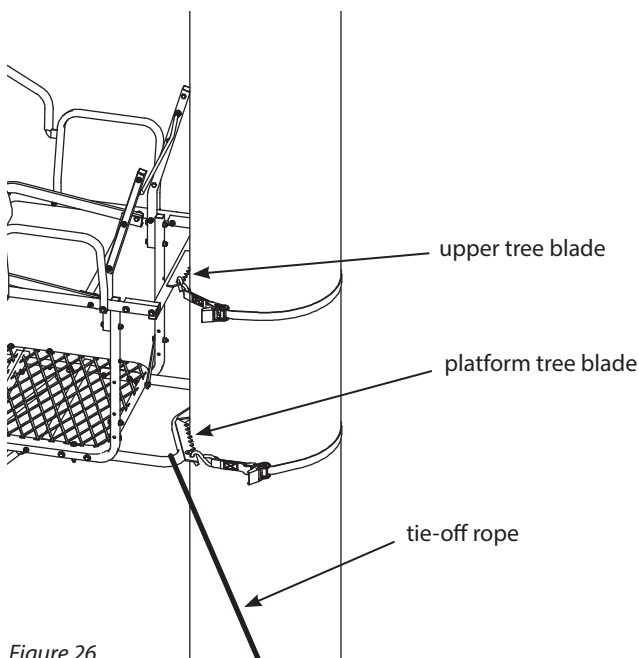

Figure 26
4. Standing on ladder step, lean toward tree with ratchet strap now in hand, hook "S" hook with long strap through hole provided on tree blade. Feed the long strap through the center (slot) of ratcheting mechanism and back around through tightening lever. **SEE FIGURES 26 and 27.**
SEE FIGURES 26, 27, AND 28. Once seated, shooting rail can now be seated down over studs. **SEE FINISHED LADDER ILLUSTRATIONS.**